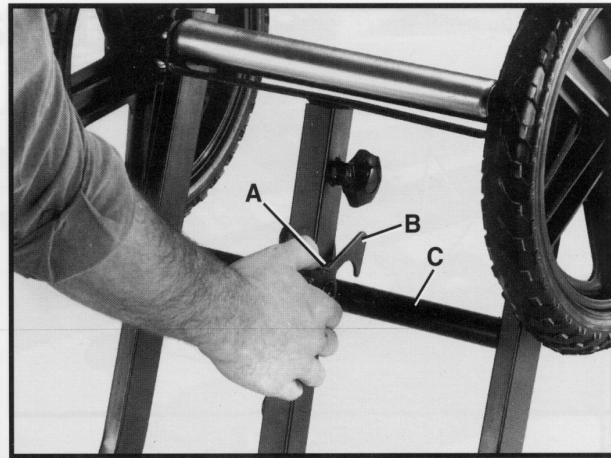

Fig. 25
1. Press down lever (A) Fig. 25, to disengage latch (B) from bar (C) as shown.